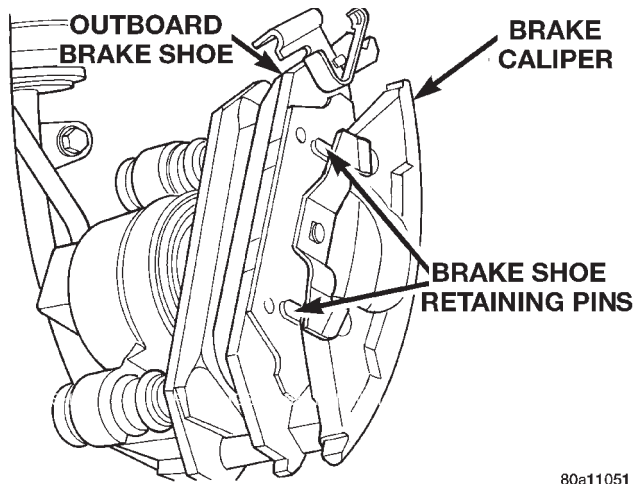

Fig. 51 Removing / Installing Outboard Brake Shoe
(8) Remove outboard brake shoe by pushing the brake shoe inward until retaining pins on brake shoe can be removed from holes in caliper (Fig. 51). Then slide the brake shoe off the caliper.
- (6) Slide the new outboard brake shoe assembly onto the caliper assembly (Fig. 51).